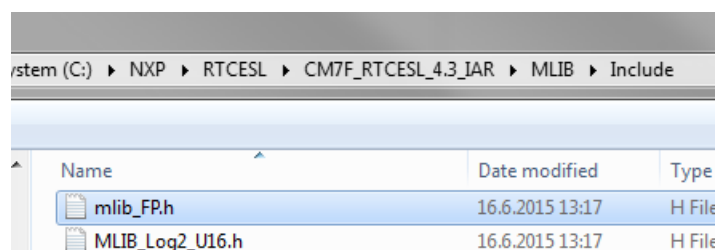

Figure 1-45. Add Files dialog
5. Navigate into the library installation folder C:\NXP\RTCESL\CM7F_RTCESL_4.6_IAR\MLIB\Include, and select the *mlib_FP.h* file. (If the file does not appear, set the file-type filter to Source Files.) Click Open. See Figure 1-45.